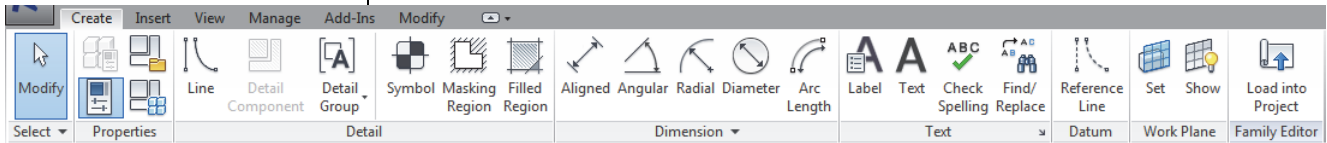

Figure 1–34
- In the New Title Block - Select Template File dialog box, select a template file size from the list and click . A new family file opens and the Family tools display in the Ribbon, as shown in Figure 1–34.